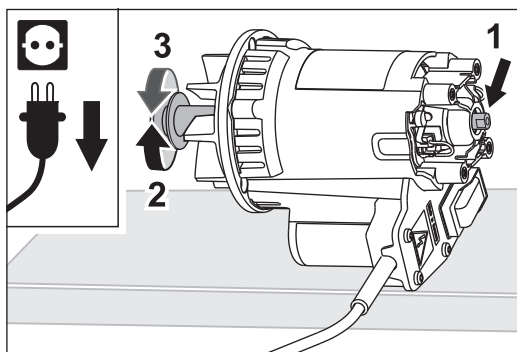

Fig. 51 Hold the end of the motor shaft with a spanner (1) and unscrew the motor pulley from the shaft (2). Screw on the new motor pulley (3).
- 5 Hold one end of the motor shaft tightly with an SW 10 spanner (fig. 51, 1) and use a pair of pliers to unscrew the motor pulley from the motor shaft (fig. 51, 2).
- 8 Turn the new motor pulley onto the motor shaft (fig. 51, 3).